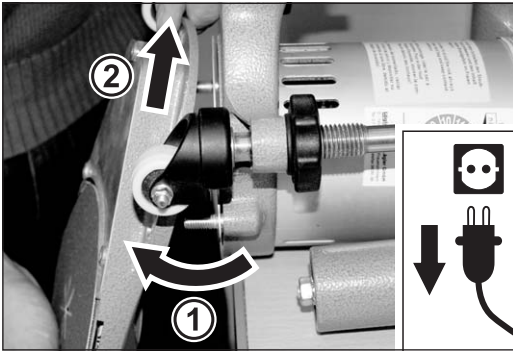

Fig. 37 Remove the two nuts and washers with which the attachment is fastened and the attachment from the machine.
- 4 Remove the attachment from the machine (fig. 37) and put away the attachment with the sanding disc facing downward.